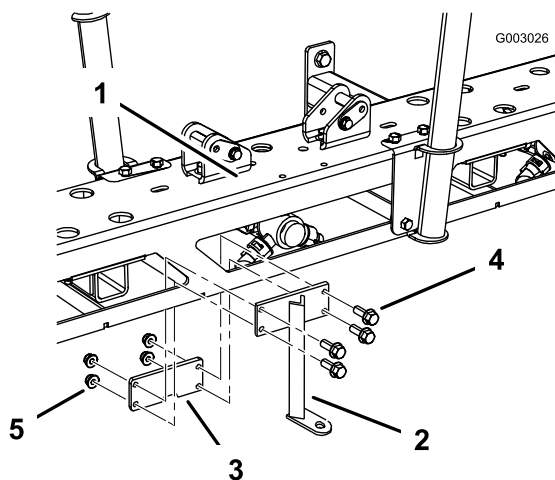

Figure 2
1. Install the universal tow hitch to the center boom using a mounting plate, 4 bolts (3/8 x 1 inch) and 4 lock nuts (3/8 inch) as shown in (Figure 2). The mounting plate should be installed with the notched edge pointing down.